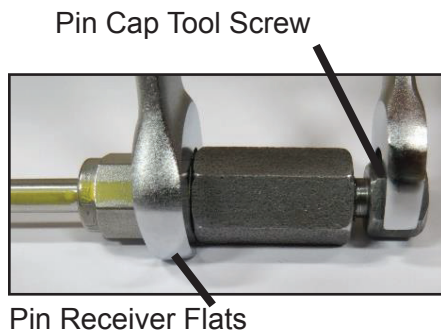

Figure 41: Tighten the pin cap tool screw.
- Hold the pin receiver flats with a 9/16" wrench and **use a 1/2" wrench to turn the pin cap tool screw** onto the receiver until it contacts the pin cap tool base (Figure 41). **DO NOT** turn the pin receiver flats. Ensure there is metal-to-metal contact between the base of the pin cap tool and the pin receiver flats as shown in Figure 41.